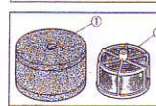

Fig. 30
- Along the guide rod, withdraw the filter element(Fig.30), wash it with clean, non-flammable or high flash point solvent. This done, squeeze it to remove the remained solvent.